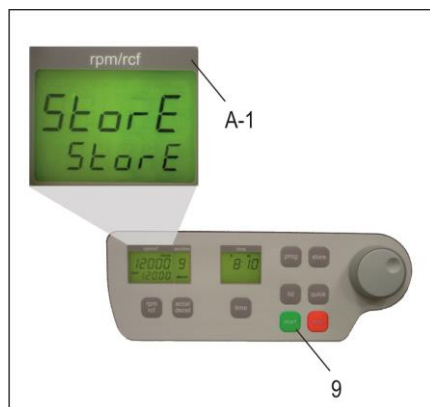

Figure 3
- All changed settings must be confirmed by the key, "start" (9). A confirmation screen will appear with the word; "store" in the display box, "rpm/rcf"(A-1) - Only then, the pre-selections are valid, (see Figure 3)!